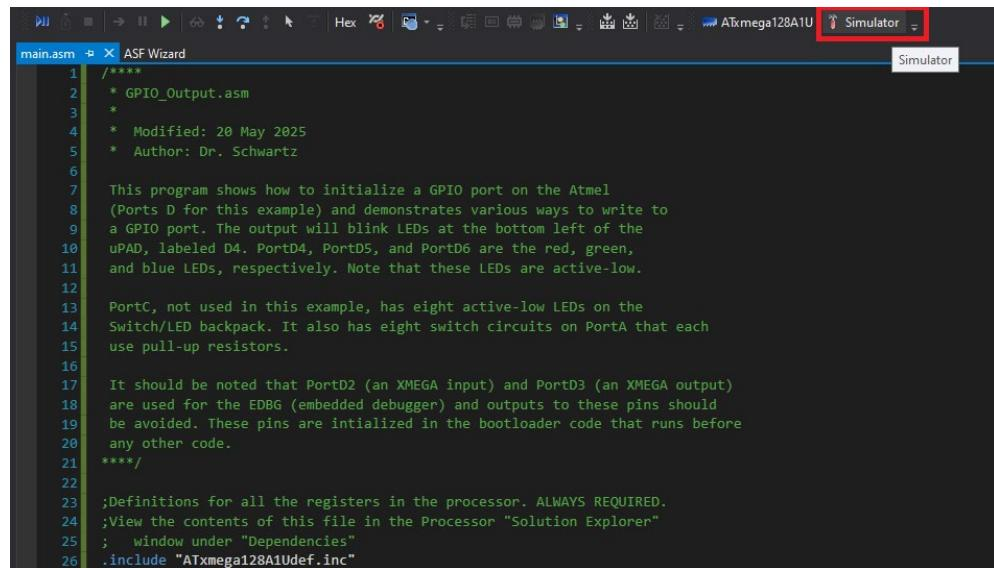

Figure 9: Target Selector.
3. Click the target selector icon as shown in *Figure 9*. This will open the project *Tool* window. You can also navigate here via *Project* → <Project\_Name> *Properties...*